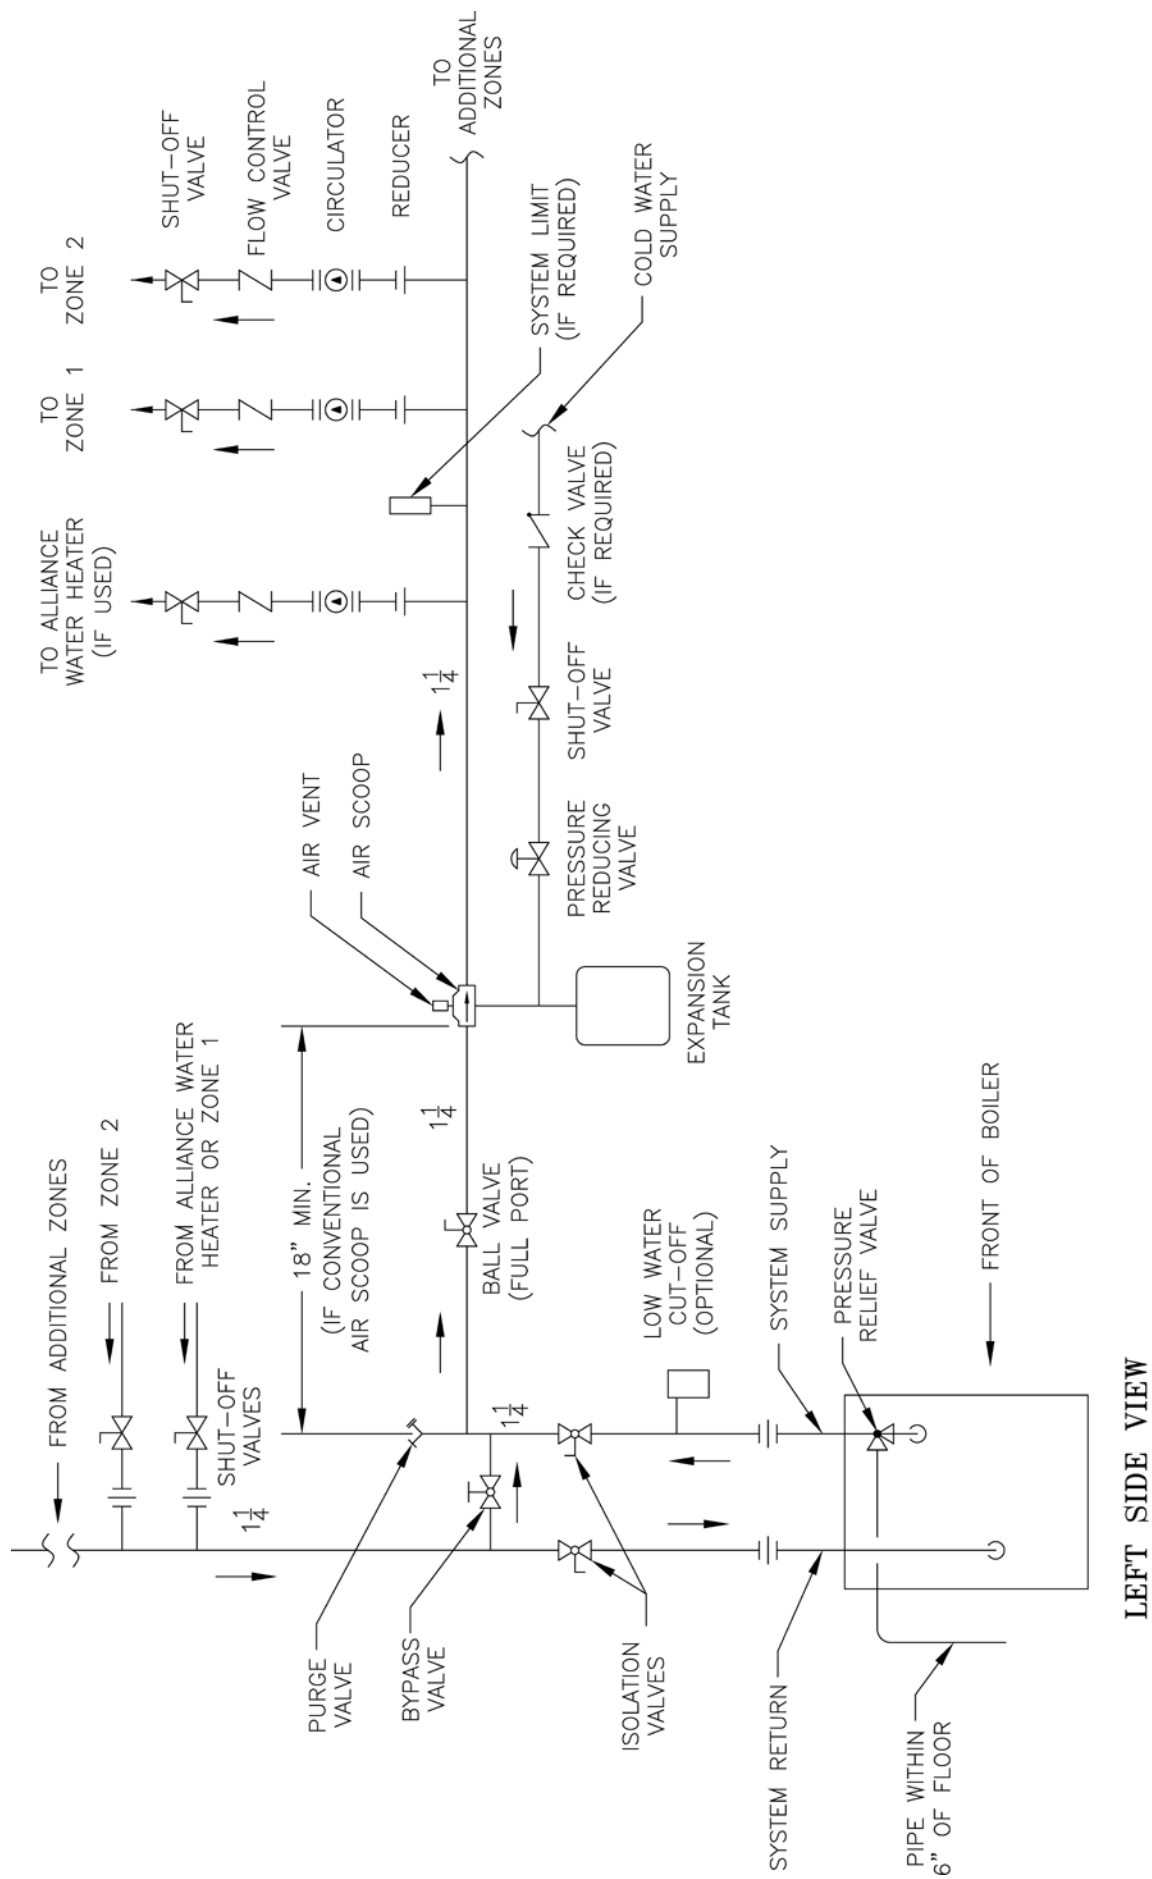

Figure 11: Recommended Boiler Piping For Circulator Zoned Heating Systems
- C. Connect system supply and return piping to boiler.** See Figures 11 and 12. Maintain minimum ½ inch clearance from hot water piping to combustible materials.
Install pipe tee between circulator and boiler return along with second tee in supply piping as shown in Figure 11 or 12. Bypass should be same size as the supply and return lines with valves located in bypass and supply outlet as illustrated in Figure 11 or 12 in order to regulate water flow to maintain higher boiler water temperatures.